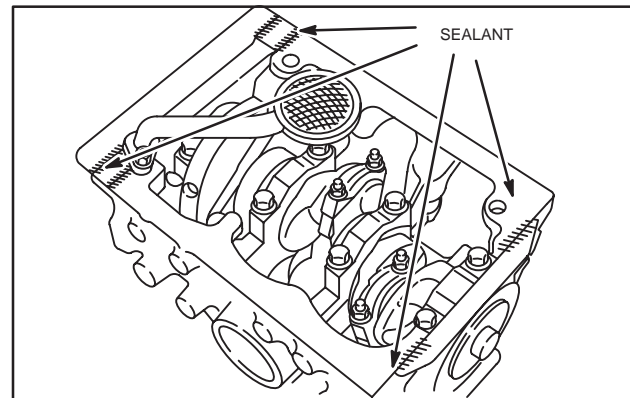

Fig. 20 – Installing Oil Pan
- a. Apply a small bead of Permatex® No. 2 or similar sealant to crankcase areas shown, Fig. 20.